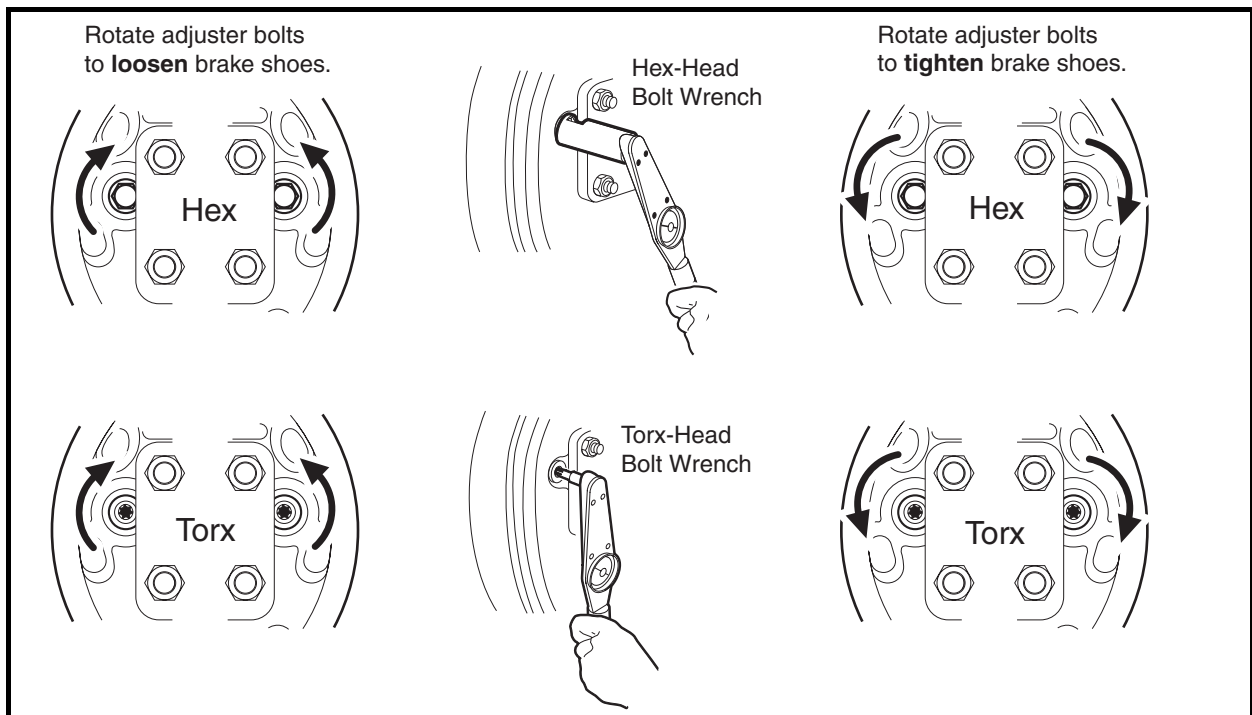

Figure 6-3 Loosen or Tighten Brake Adjusters
- 5.2. Use a torque wrench and a Torx #T-27 driver, or hydraulic brake adjuster (CCI P/N 102169401), and gently rotate the adjuster bolts to increase the clearance between the brake shoe lining and the brake drum (**Figure 6-3, Page 6-7**). See following NOTE.
- 5.2. Use a torque wrench and a Torx #T-27 driver, or hydraulic brake adjuster (CCI P/N 102169401), and gently rotate the adjuster bolts to increase the clearance between the brake shoe lining and the brake drum (**Figure 6-3, Page 6-7**). **See following NOTE.**
- 4.2. Use a torque wrench and a Torx #T-27 driver, or hydraulic brake adjuster (CCI P/N 102169401), and gently rotate the adjuster bolts (**Figure 6-3, Page 6-7**). See following **NOTE**.